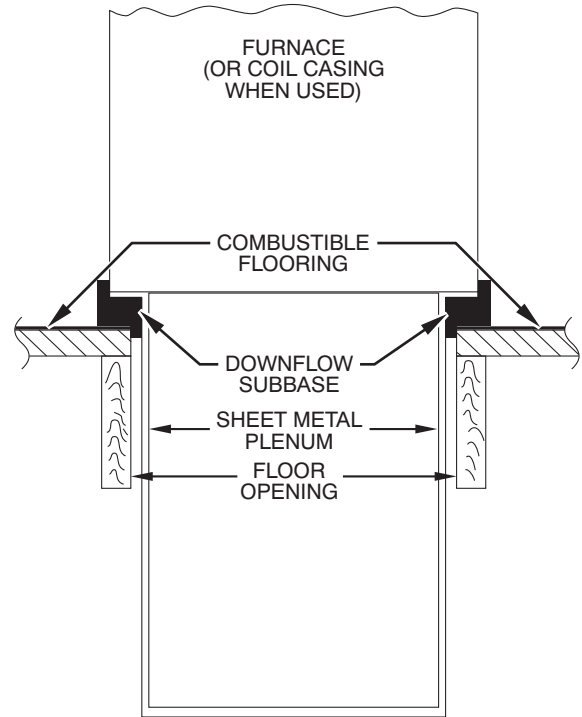
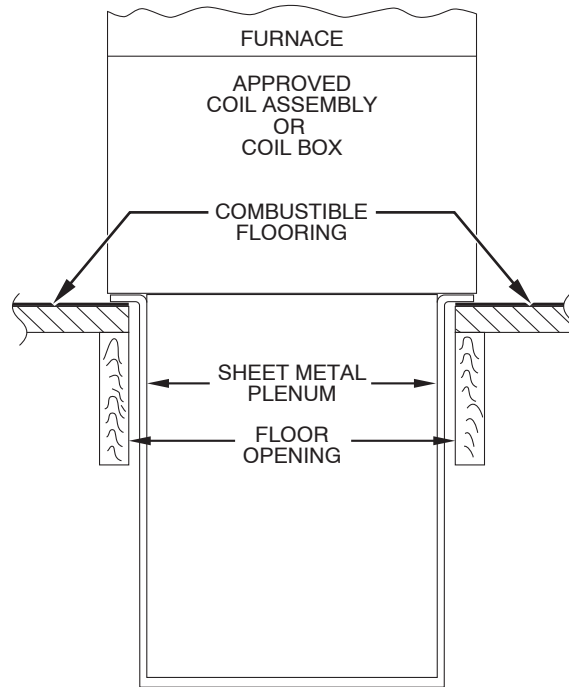

Fig. 12 – Furnace, Plenum, and Subbase Installed on a Combustible Floor
Fig. 13 – Furnace, Plenum, and Coil Assembly or Coil Box Installed on a Combustible Floor
4. If downflow subbase KGASB is used, install as shown in Fig. 12. If Coil Assembly Part No. CNPV, CNRV, CAP and CNR or Coil Box Part No. KCAKC is used, install as shown in Fig. 13.